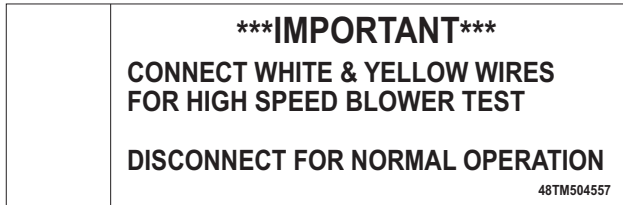

Fig. 19 — High Speed Test Label
4. Locate and connect the WHT and YEL wires extending from the VFD. The two wires are bundled together using the label shown in Fig. 19.